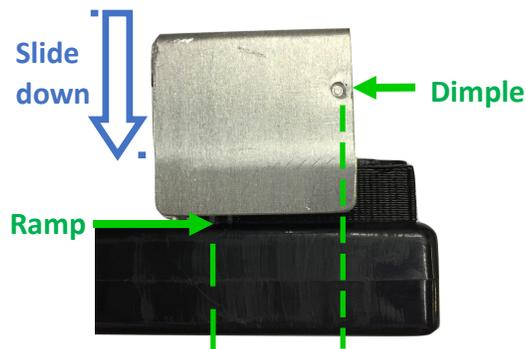

Figure 5.3 Slide the shield back on the case
7) Push the Alpha/Beta shield back on the case (see Figure 5.3) with the assistance of the ramps on the sides of the sensor window\*.